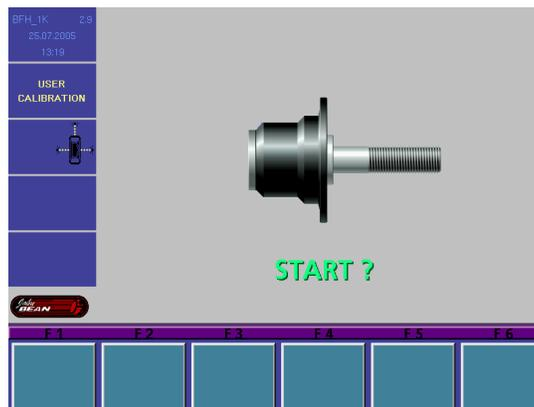

Figure 39
4. Lower the wheel guard and press the **“SPIN”** key. The balancer should spin and come to a complete stop. See Figure 39.